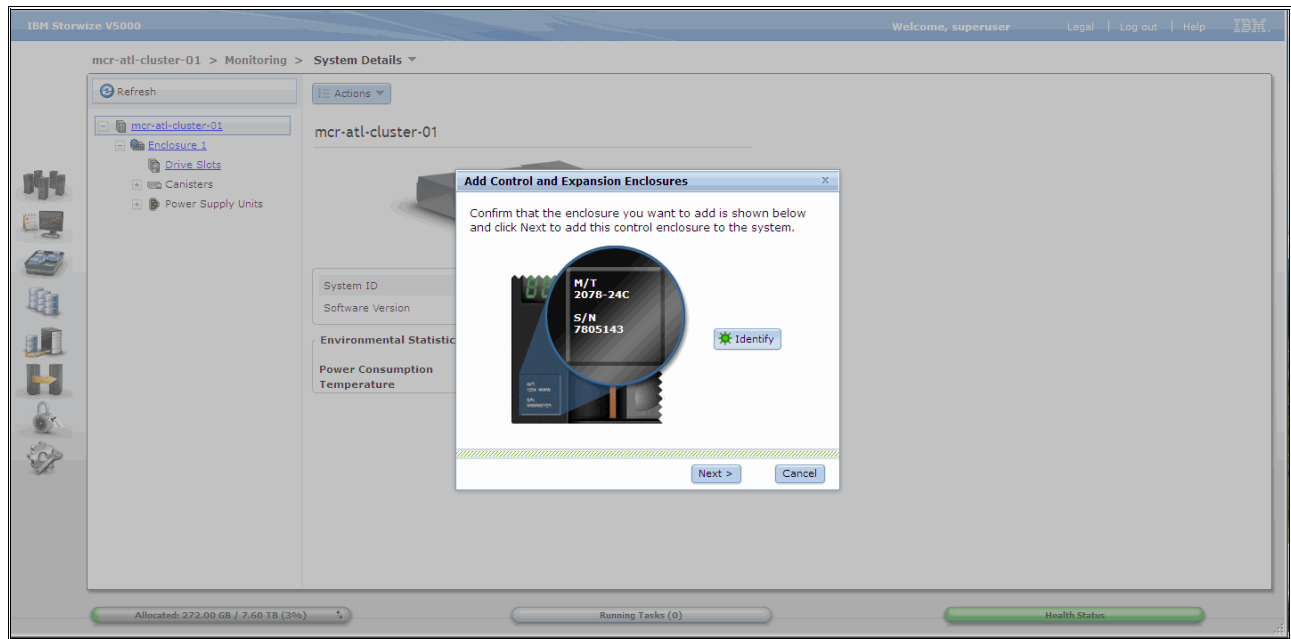

Figure 2-34 New control enclosure identification
2. If the control enclosure is properly configured, the new control enclosure is identified in the next window, as shown in Figure 2-34.